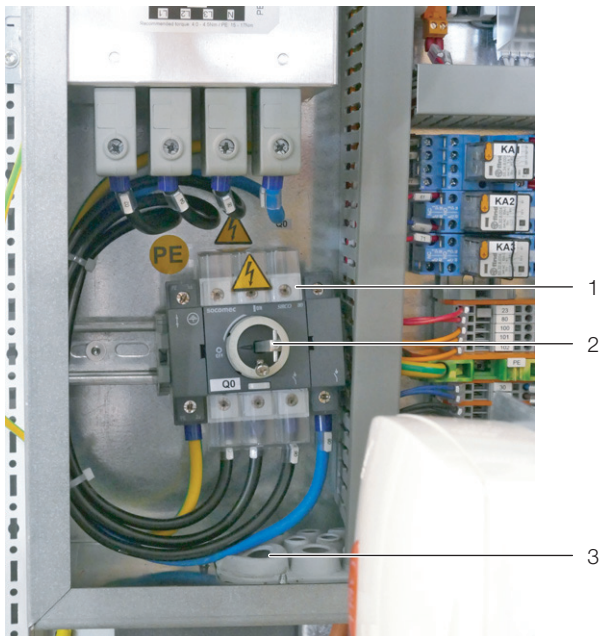

Fig. 28: Opened electronics box
The cable is inserted into the electronics box from below (fig. 28, item 3). Inside the electronics box, it is connected to the correspondingly labelled terminals on the master switch (PE, L1, L2, L3, N).
- Trim the neutral conductor (N) and the three phase conductors (L1, L2, and L3) to a length of approximately 35 mm. Leave the length of the PE conductor at approximately 45 mm.